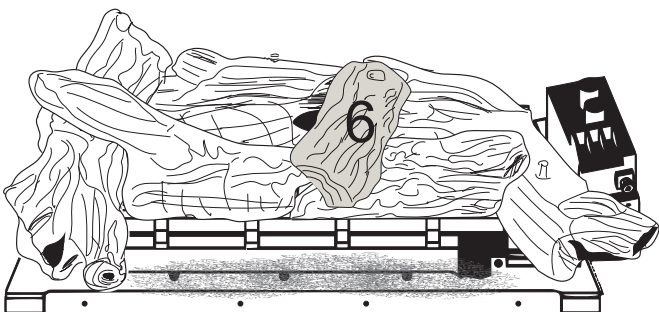

Figure 6.7 - Log #6 Placement
- Hold log #6 with the flat end toward the back. Place log #6 by positioning the pin locator hole on the bottom of the log over the pin on log #2 and set on top of log #4. See Figure 6.7.